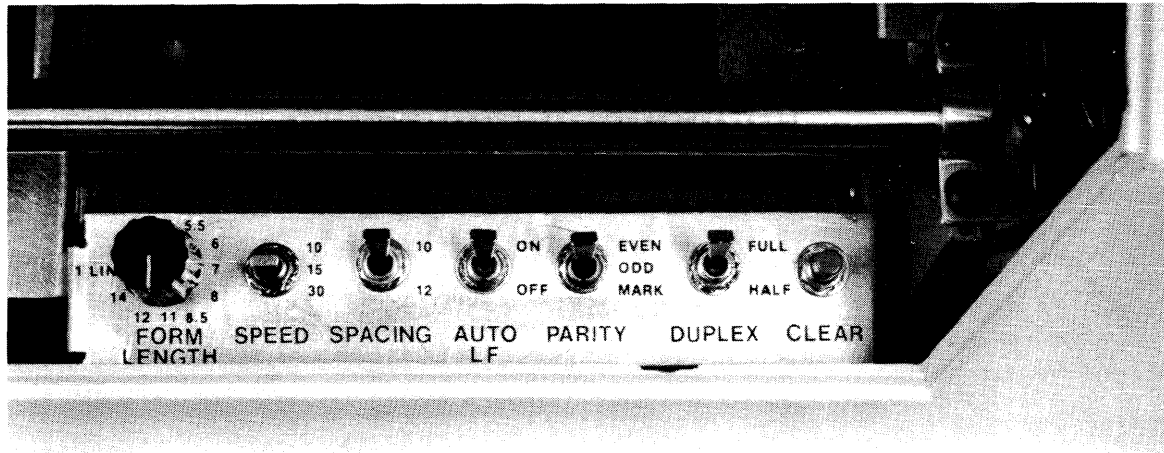

Figure 2-3. Control Panel
2.2.2 Control Panel (Figure 2-3)